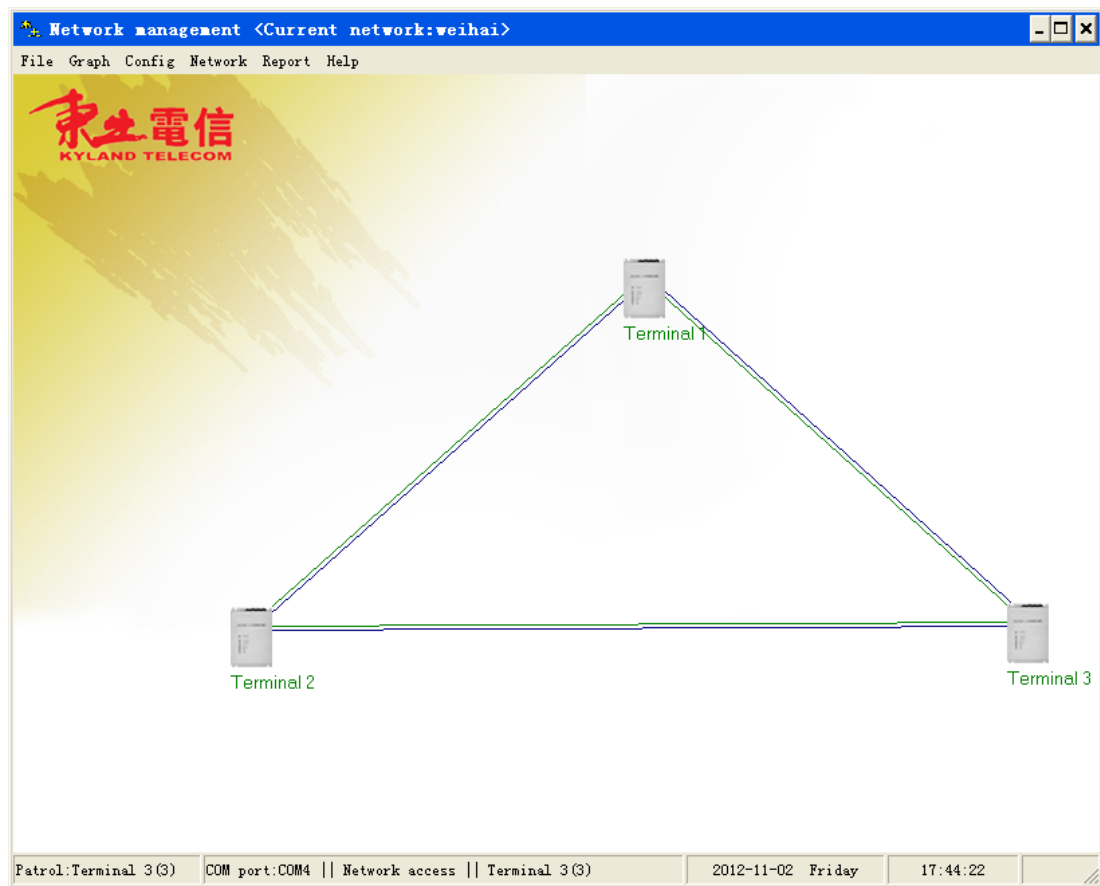

Figure 32 Configuration Example for Dual-Fiber Ring Redundancy
4. Set links, as shown in Figure 32.